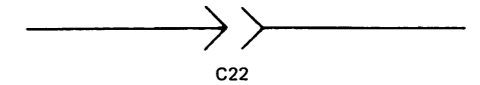

Fig. 4 – Wire Connector Code
- Wire connector identification code is shown in Figure 4. The key for the connector codes is located at the bottom of the wiring diagram.